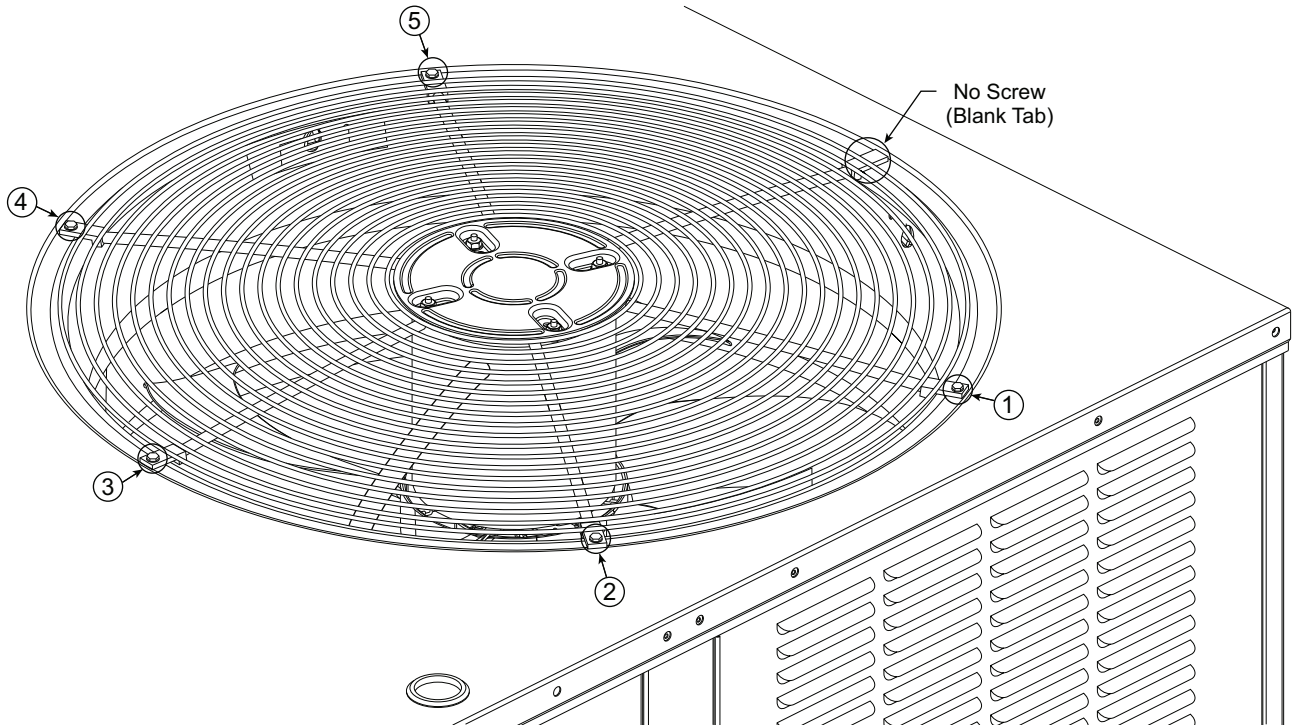

Fig. 36 — Condenser-Fan Assembly — Screw Pattern Sequence
6. Replace condenser-fan assembly. When replacing the condenser-fan assembly follow the screw pattern sequence shown in Fig. 36. The screws must be replaced in the sequence shown in the figure.